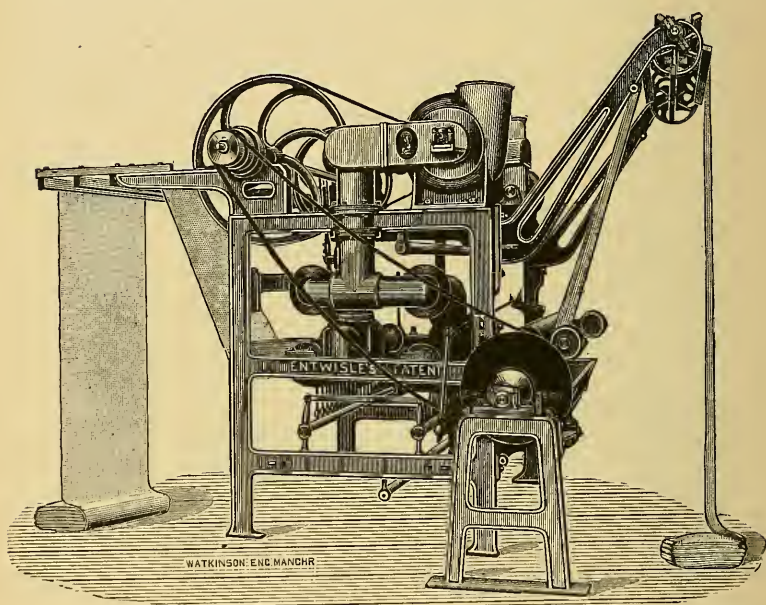

Fig. 70.—Gas Singeing Machine.
**Singeing by Gas.**—The machine for this purpose, shown in Fig. 70, has the burners so arranged that the application of compressed air takes place at the moment of the combustion of the gas; and, by varying the pressure of the air, all the different degrees of heat can be obtained, so that heavy, light, or very thin fabrics can be singed with equal facility. The upper part of the burner is open along its whole length, taps and other means being provided for regulating the line of flame. The position of this line of flame can also be varied according to the effect required. Thus the flame applied directly under the roller singes the cloth thoroughly, bringing out the *grain* so much required and sought for in many classes of fabrics; in other cloths, where the dressing is very slight, as in shearing, the line of flame is placed tangentially to the roller, and merely takes off the projecting fibres.